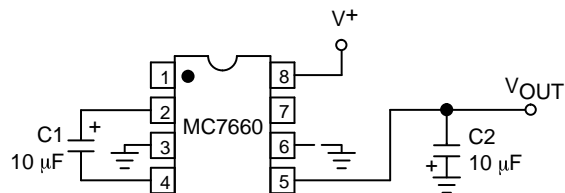
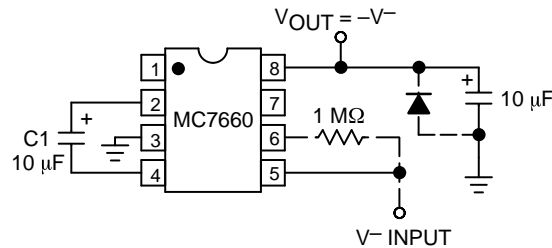
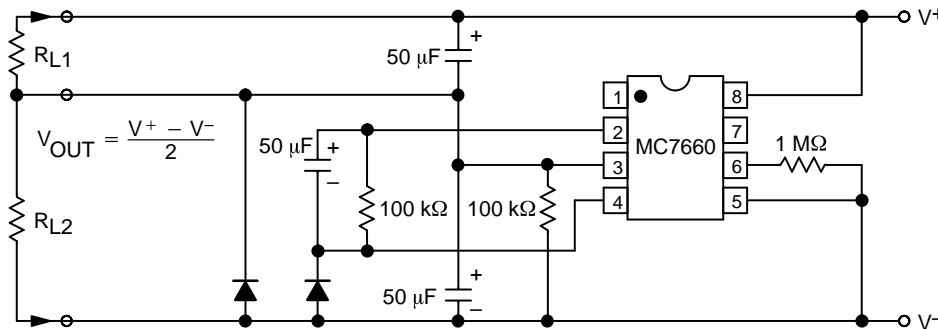

Figure 3. Simple Negative Converter
**Figure 9. Combined Negative Converter and Positive Multiplier**
**Figure 10. Positive Voltage Conversion**
Figure 3 shows typical connections to provide a negative supply where a positive supply is available. A similar scheme may be employed for supply voltages anywhere in the operating range of +1.5V to +10V, keeping in mind that pin 6 (LV) is tied to the supply negative (GND) only for supply voltages below 3.5V.
The output characteristics of the circuit in Figure 3 are those of a nearly ideal voltage source in series with 70Ω. Thus, for a load current of -10mA and a supply voltage of +5V, the output voltage would be -4.3V.
Figure 9 combines the functions shown in Figures 3 and 8 to provide negative voltage conversion and positive voltage multiplication simultaneously. This approach would be, for example, suitable for generating +9V and -5V from an existing +5V supply. In this instance, capacitors  $C_1$  and  $C_3$  perform the pump and reservoir functions, respectively, for the generation of the negative voltage, while capacitors  $C_2$  and  $C_4$  are pump and reservoir, respectively, for the multiplied positive voltage. There is a penalty in this configuration which combines both functions, however, in that the source impedances of the generated supplies will be somewhat higher due to the finite impedance of the common charge pump driver at pin 2 of the device.
Since the switches that allow the charge pumping operation are bidirectional, the charge transfer can be performed backwards as easily as forwards. Figure 10 shows a MC7660 transforming -5V to +5V (or +5V to +10V, etc.). The only problem here is that the internal
clock and switch-drive section will not operate until some positive voltage has been generated. An initial inefficient pump, as shown in Figure 9, could be used to start this circuit up, after which it will bypass the other (D1 and D2 in Figure 9 would never turn on), or else the diode and resistor shown dotted in Figure 10 can be used to "force" the internal regulator on.
The same bidirectional characteristics used in Figure 10 can also be used to split a higher supply in half, as shown in Figure 11. The combined load will be evenly shared between the two sides. Once again, a high value resistor to the LV pin ensures start-up. Because the